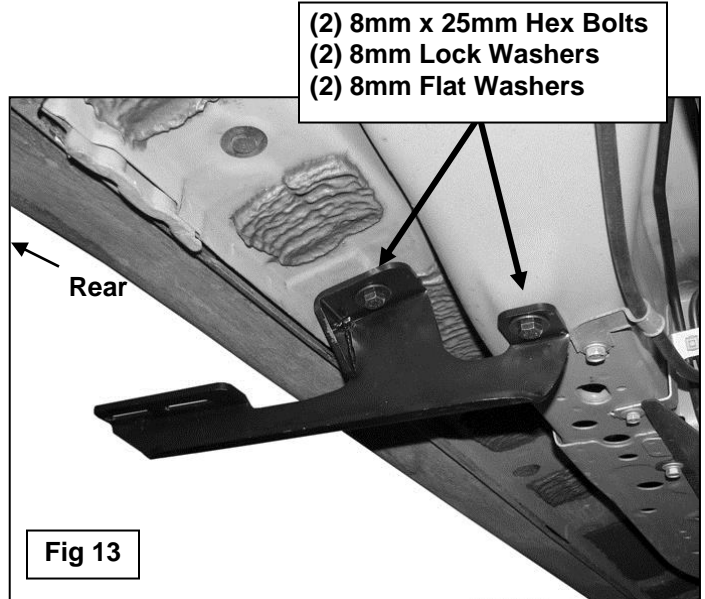

Fig 13
9. Attach the driver side Rear Bracket to the (2) threaded holes with (2) 8mm x 25mm Hex Bolts, (2) 8mm Lock Washers and (2) 8mm Flat Washers, **(Figure 13)**. Do not tighten hardware at this time.